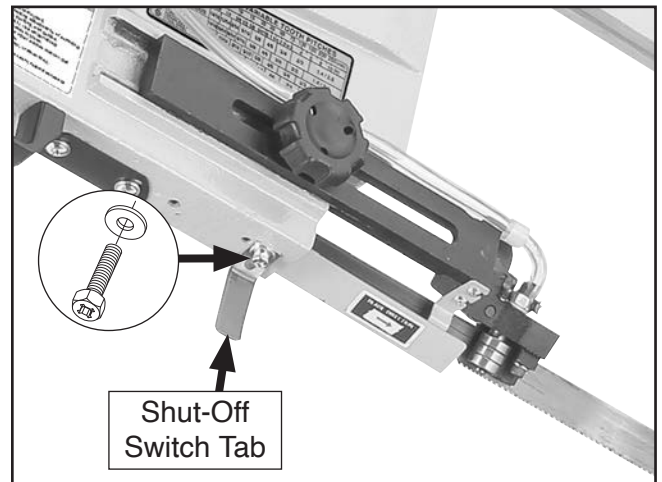

Figure 82. Location of shut-off switch tab and hex bolt.
8. Loosen hex bolt shown in **Figure 82**).
9. With headstock resting on downfeed stop bolt, position shut-off switch tab (see **Figure 82**) so it *just* activates limit switch, then tighten hex bolt.